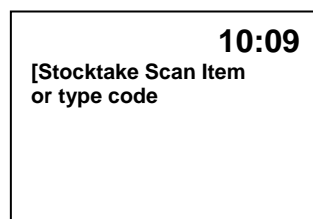

Figure 18: The Stocktake Window ready to scan
- Scan an item to stocktake if it doesn't scan try typing the **Item Lookup code** number instead, refer to Figure 18